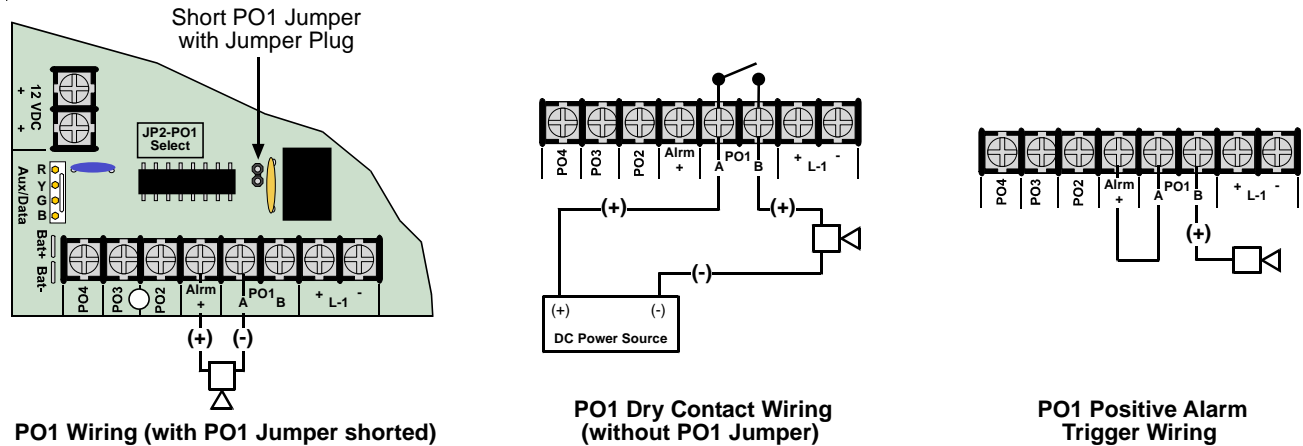

Figure 24: PO1 Wiring
- **PO1:** PO1 terminals can be configured as an alarm power output. JP2-PO1 Jumper must be closed. The default configuration for PO1 makes it a dry contact, Normally Open relay with PO1 Jumper open (see Figure 24).